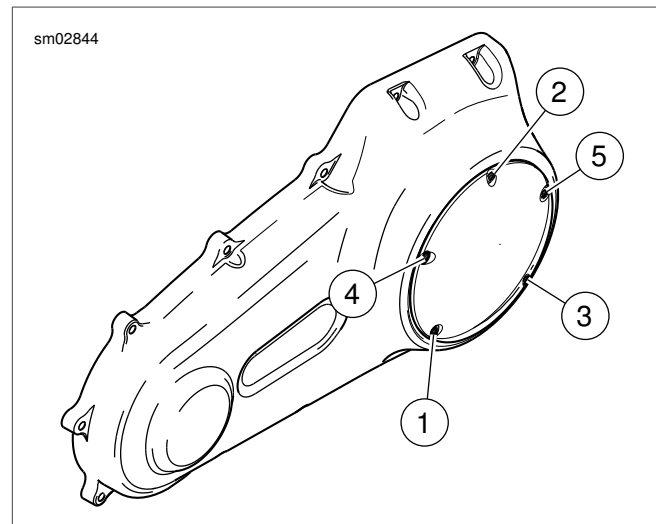

Figure 1-23. Clutch Cover Torque Sequence
- b. Position **new** seal (1) in groove in primary chaincase cover and press each of the nubs on seal into the groove. The nubs will retain seal in position.
- e. Alternately tighten screws to 84-108 **in-lbs** (9.5-12.2 Nm) following torque sequence shown in Figure 1-23.